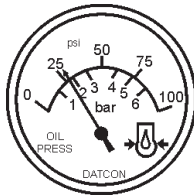

Figure 55. Oil Pressure Gauge
13. The engine oil pressure gauge (Figure 55) will indicate the oil pressure of the engine. Under normal operating conditions the oil pressure is approximately 41 to 71 psi.